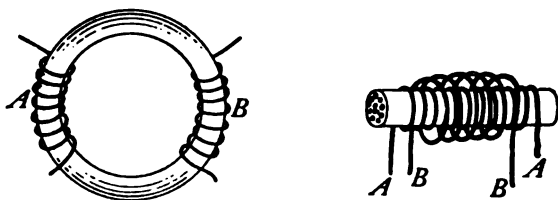

FIG. 304.—The transformer has a closed core; the induction coil, an open core.
**309. The Transformer.**—This is like the induction coil in that it uses a *primary* and a *secondary* coil, and an iron core to carry the magnetic field. (See Fig. 304.) They differ in that the transformer has a *closed* core or one forming a continuous iron circuit, while the induction coil has an *open* core, or one in which the magnetic field must travel in air from the north to the south poles of the core. The